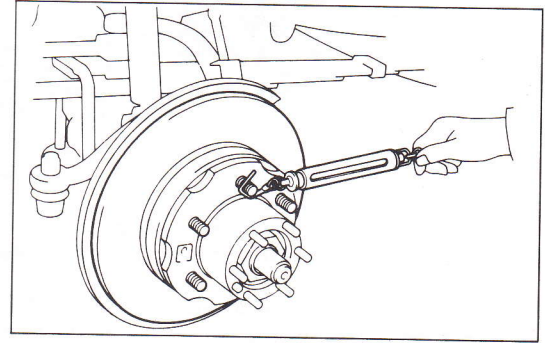
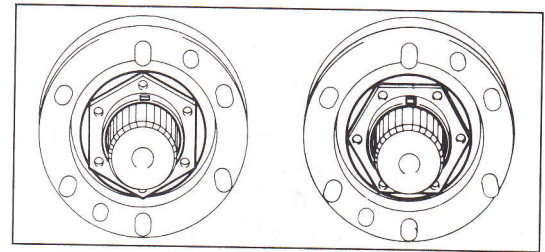

Fig. 4-19. Spring scale being used to determine starting preload of front wheel bearings.
Fig. 4-20. Two positions in which adjusting nut may be secured.
2. To adjust the position of the adjusting nut, install a spring scale as indicated in Fig. 4-19. Using the spring scale, measure the load required to start the axle hub just turning. Slightly loosen or tighten the adjusting nut to obtain a starting preload between 1.0 and 3.9 kg (2.2 and 8.6 lb.) on 1984 models, or between 2.9 to 5.7 kg (6.4 to 12.6 lb.) on 1985 through 1987 models. With the nut in one or the other of the positions shown in Fig. 4-20, the nut should be secured.